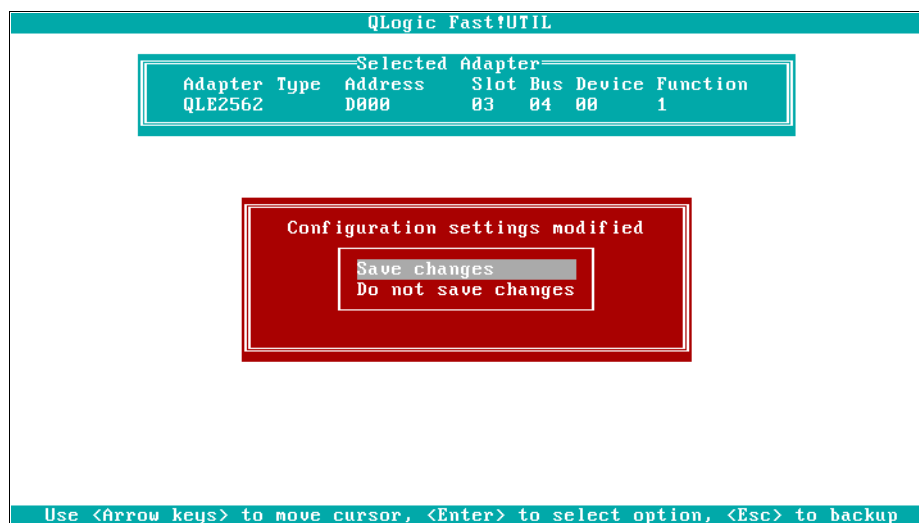

Figure 2-29 Saving QLogic HBA settings
- After verifying all the details, keep pressing Esc until it asks you to save your changes. Save the changes and reboot the system to let the changes take effect, as shown in Figure 2-29.